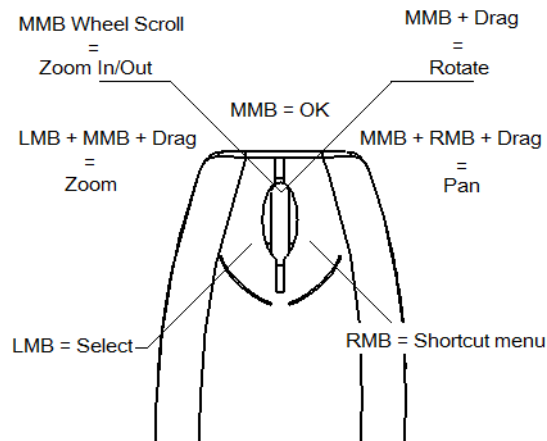

Figure 1-10 Functions of the mouse buttons
3. Press and hold the middle and the right mouse buttons to invoke the **Pan** tool. Next, drag the mouse to pan the model. You can also invoke the **Pan** tool by first pressing and holding the Shift key and then the middle mouse button. Figure 1-10 shows the use of a three button mouse in performing the pan functions.
4. Press and hold the middle mouse button to invoke the **Rotate** tool. Next, drag the mouse to dynamically rotate the view of the model in the geometry area and view it from different directions. Figure 1-10 shows the use of the three button mouse in performing the rotate operation.
5. Press and hold the Ctrl key and then the middle mouse button to invoke the **Zoom** tool. Alternatively, press and hold the left mouse button and then the middle mouse button to invoke the **Zoom** tool. Next, drag the mouse dynamically to zoom in or out the model in the geometry area. Figure 1-10 shows the use of the three mouse buttons in performing the zoom functions.